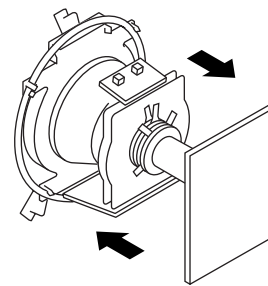

Fig.3-3
5. Shift slowly the DY Assy to back side and set raster to get full green. (Fig.3-3)